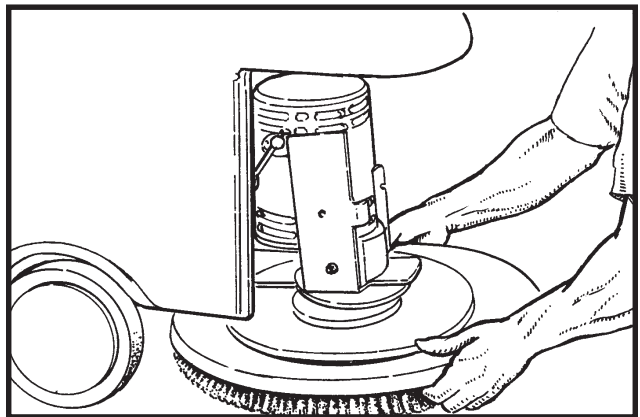

Figure 15c
5. Put a brush or pad driver under the brush housing. See figure 15c.